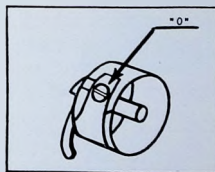

Fig. 37
This is always permanently set at factory and under ordinary use never must be changed. When the bobbin thread tension has once been properly adjusted, changes are seldom necessary, as change of needle tension on top control normally produces the correct stitch. Bobbin thread tension is regulated in the following manner: To increase tension, turn screw, (O) Fig. 37, located on the bobbin tension spring, to the right. To decrease tension, turn screw to the left.